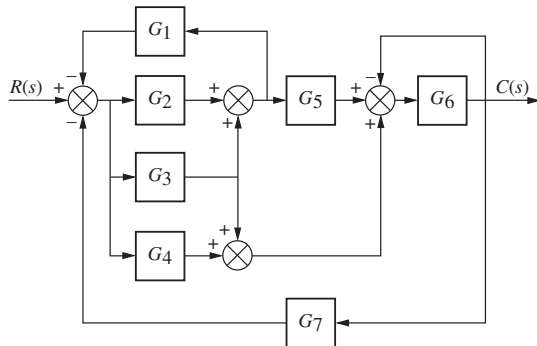

FIGURE I-5.2
2. Find the equivalent transfer function,  $T(s) = C(s)/R(s)$ , for the system shown in Figure I-5.2. [Section: 13.2]